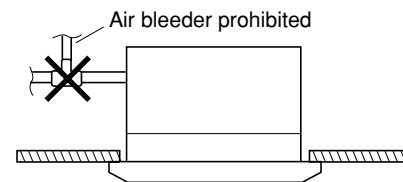

Fig. 3-55
- Do not install an air bleeder as this may cause water to spray from the drain pipe outlet. (Fig. 3-55)